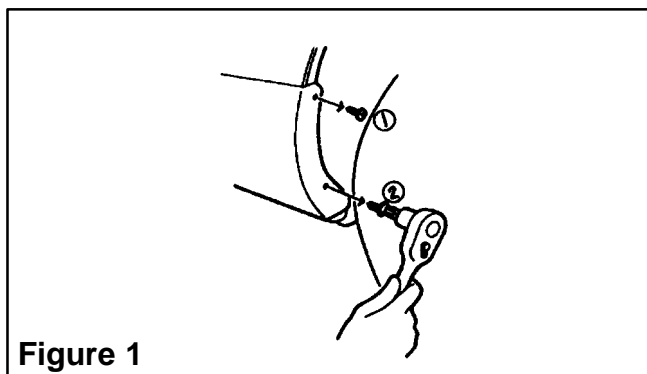

Figure 1
1. Take out screws 1 and 2 which secure the front fender liner (See Figure 1).